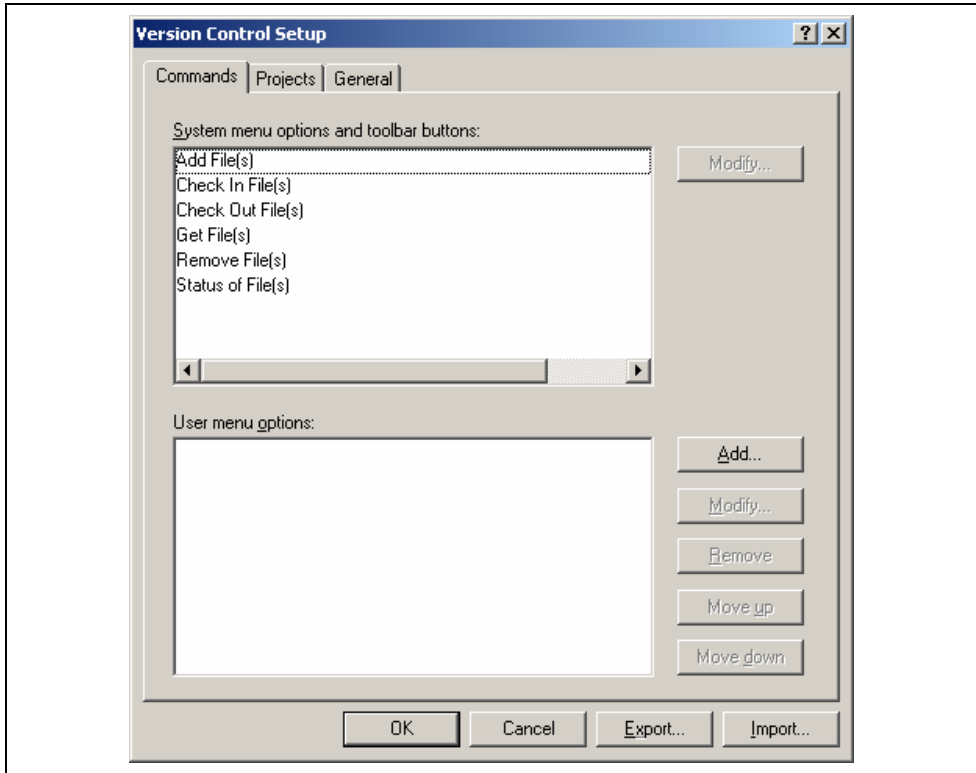
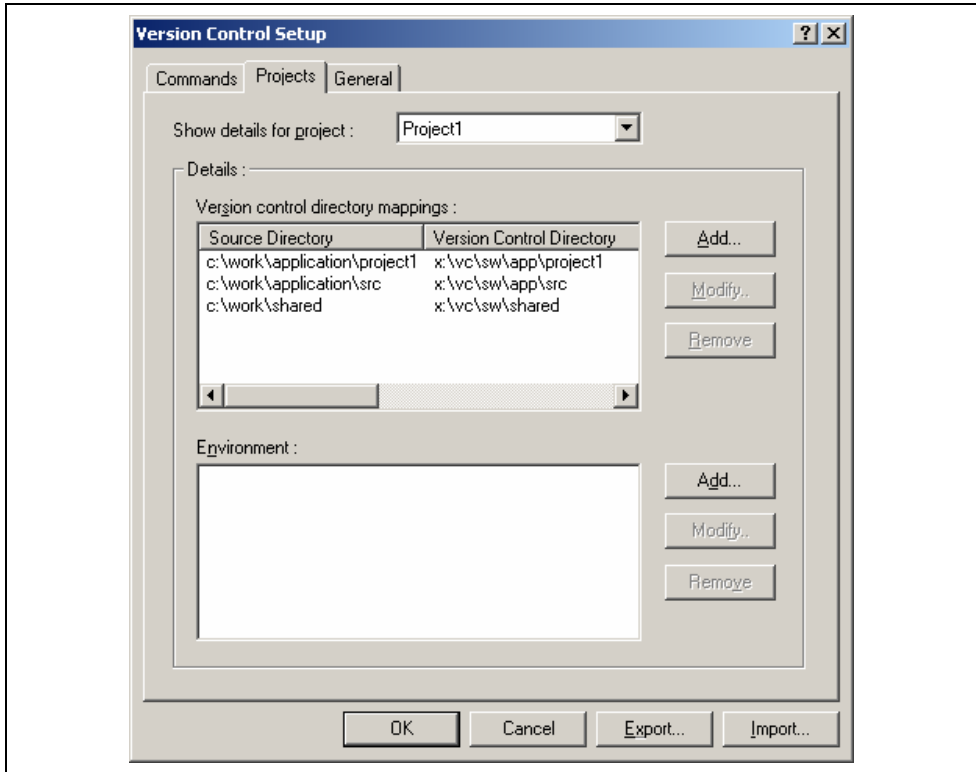

Figure 8.1: Version Control Setup Dialog Commands Tab
Figure 8.7: Version Control Setup Dialog Projects Tab
The custom version control support allows you the most flexibility in specifying how a version control system is to be used. To configure it, select [**Version Control->Configure...**]. The “Version Control Setup” dialog will be displayed (figure 8.1).
1. Select **[Version Control->Configure...]**. The dialog shown in figure 8.1 will be displayed.
1. Select [**V**ersion **C**ontrol->**C**onfigure...]. The dialog shown in figure 8.1 will be displayed.
1. Select [**Version Control->Configure...**]. The dialog shown in figure 8.1 will be displayed.
However, when executed, this command can only ever get the file MAIN.C. To resolve this problem, HEW uses a system of placeholders and directory mappings. The latter tell the HEW which "working" directories (i.e. where source files are being worked on) map to which "controlled" directories (i.e. where the source files are stored in the version control system). Mappings between these two directory systems can be specified via the "Projects" tab of the "Version Control Setup" dialog (figure 8.7).
1. Select [**Version Control->Configure...**]. The dialog shown in figure 8.1 will be displayed. Select the “Projects” tab, and the dialog shown in figure 8.7 will be displayed.
1. Select [**Version Control->Configure...**]. The dialog shown in figure 8.1 will be displayed. Select the “Projects” tab, the dialog shown in figure 8.7 will be displayed.
Select the “Projects” tab of the “Version Control Setup” dialog to view the current settings (figure 8.7).